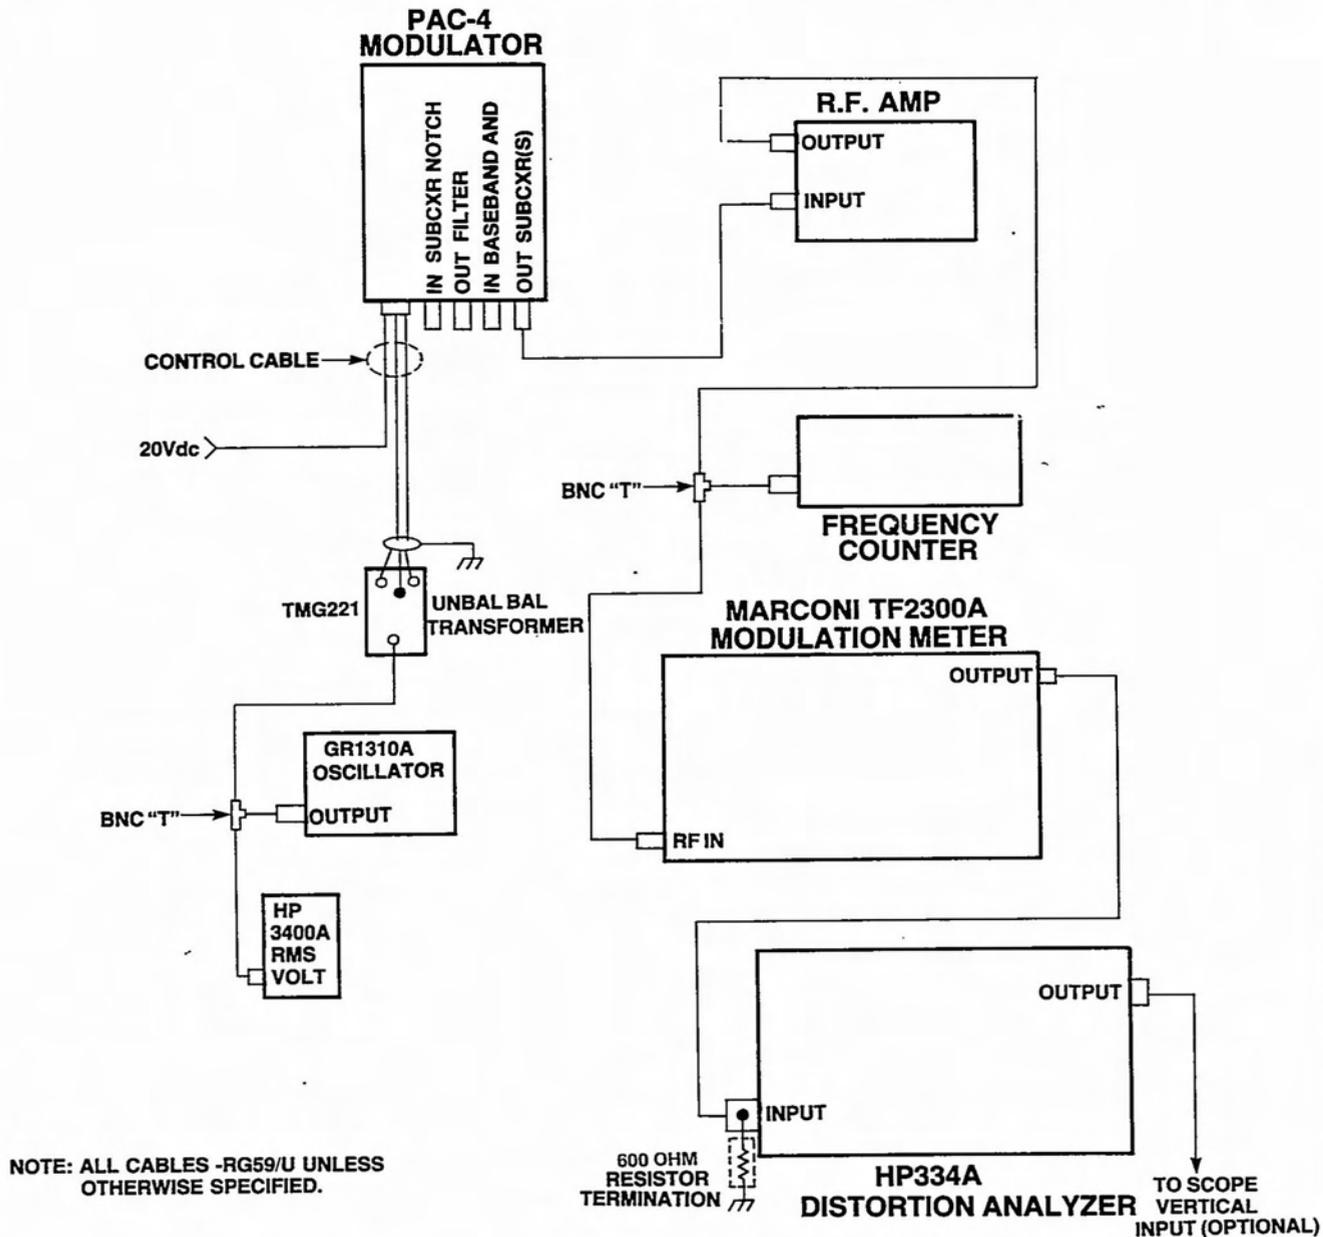

Figure 4-1. Test Equipment Set-Up
Step 1. Set up test equipment as in Figure 4-1.
Step 2. Re-check equipment set-up to comply with Figure 4-1.
Step 1. Set GR1310A oscillator frequency at 1 kHz and adjust output level for 0 dBm on RMS voltmeter (Figure 4-1).
Step 5. Set up equipment as in Figure 4-1.